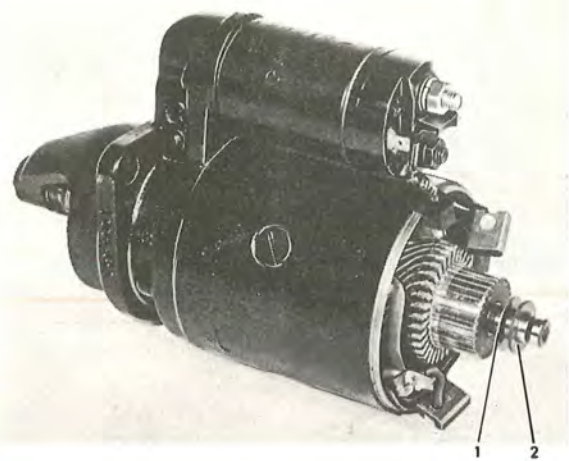

Fig. 3-34. Starter motor with brush bridge removed
5. Remove the bridge from the rotor shaft. N.B. The washers are as shown in Fig. 3-34.
8. Fit the washers on the rotor shaft as shown in Fig. 3-34.